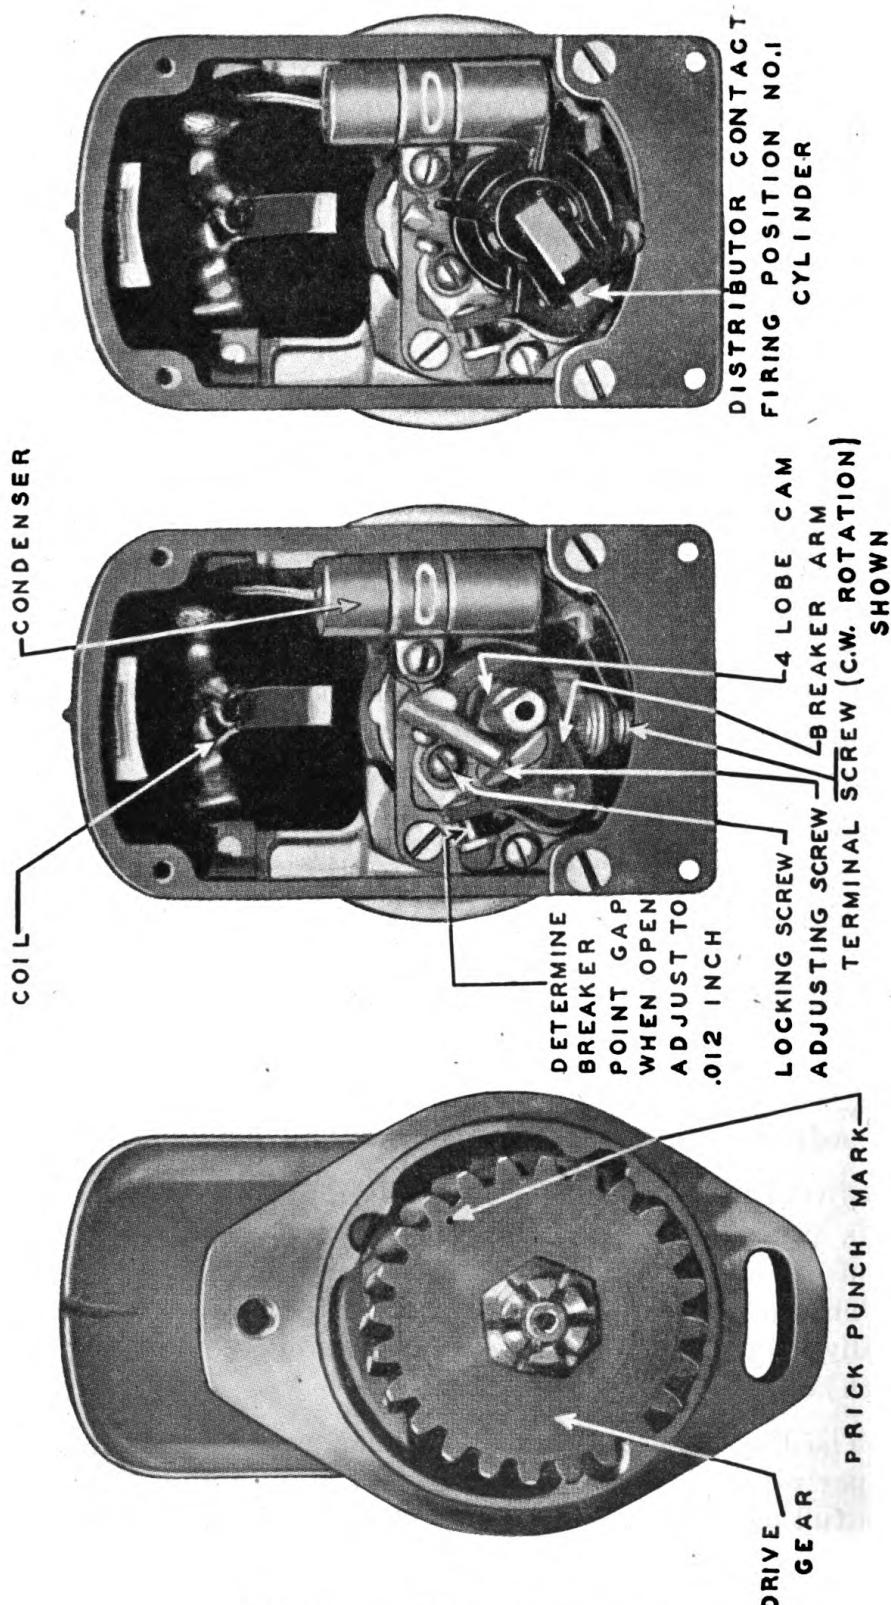

Figure 8.—Magneto parts
f. Service of breaker contact points.—Contact point adjustment necessitates removal of the distributor housing which has a sealed gasket joint with the metal housing. The contact points should be examined for evidence of pitting or pyramiding. A small tungsten file or fine stone may be used to resurface the points. If the points are worn or badly pitted, they should be replaced. Points should be adjusted to have an .018 inch gap at full separation. Adjustment is made by loosening the round head locking screw at the upper end of the stationary point bracket (figure 8), then turning the eccentric head adjusting screw until the proper gap is obtained and locking the assembly by tightening the round head screw. Always recheck the adjustment after tightening the locking screw to make sure the adjustment has not shifted.
i. Special drive gear.—The magneto is equipped with special drive gears, mounted directly on the impulse coupling. The gear is a slip fit on the extended coupling nut, since movement of the gear with respect to the coupling nut (and rotor shaft) occurs during the impulse period. If it is necessary at any time to remove the drive gear, special care must be exercised in reassembly. First, remove the entire end cap and turn the rotor until the contact segment is in firing position for No. 1 cylinder (figure 8). With the rotor in this position, fit the gear to the coupling lugs so that the prick-punch mark on the rim of the gear is in the position shown.